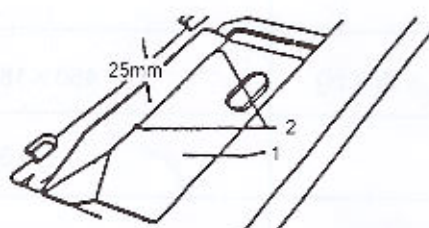

Figure 1
(1) Fixing of oil Disk
Fix the oil disk (1) with 4 pins (2) onto the frame openings of the plate. Make sure the distance between the oil disk and the plate surface is equal to 25mm. The right side of the oil disk should be kept in line with the right frame of the plate (see Figure 1).